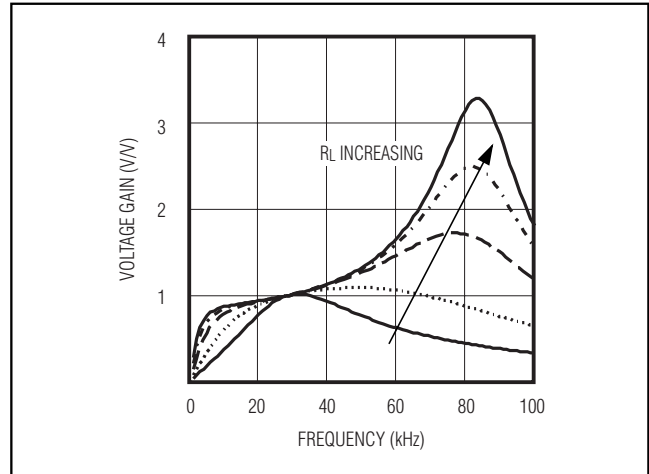

Figure 8. Frequency Response of the Resonant Tank
Figure 8 shows the frequency response of the resonant tank's voltage gain under different load conditions. The primary series capacitor is 1µF, the secondary parallel capacitor is 15pF, the transformer turns ratio is 1:78, and the secondary leakage inductance is 260mH. Notice that there are two peaks, f_s and f_p , in the frequency response. The first peak, f_s , is the series resonant peak determined by the secondary leakage inductance (L) and the series capacitor reflected to the secondary (C's):